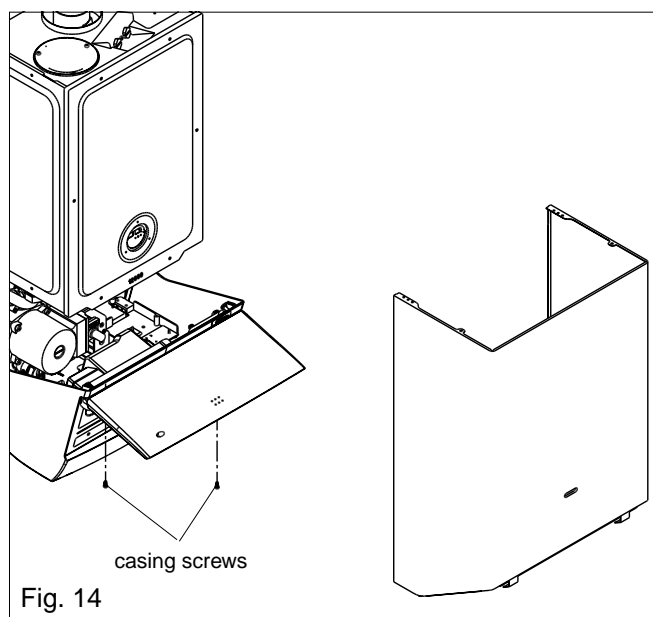

Fig. 14
- Locate and remove the 2 screws that secure the controls fascia to the appliance casing (see fig 14).